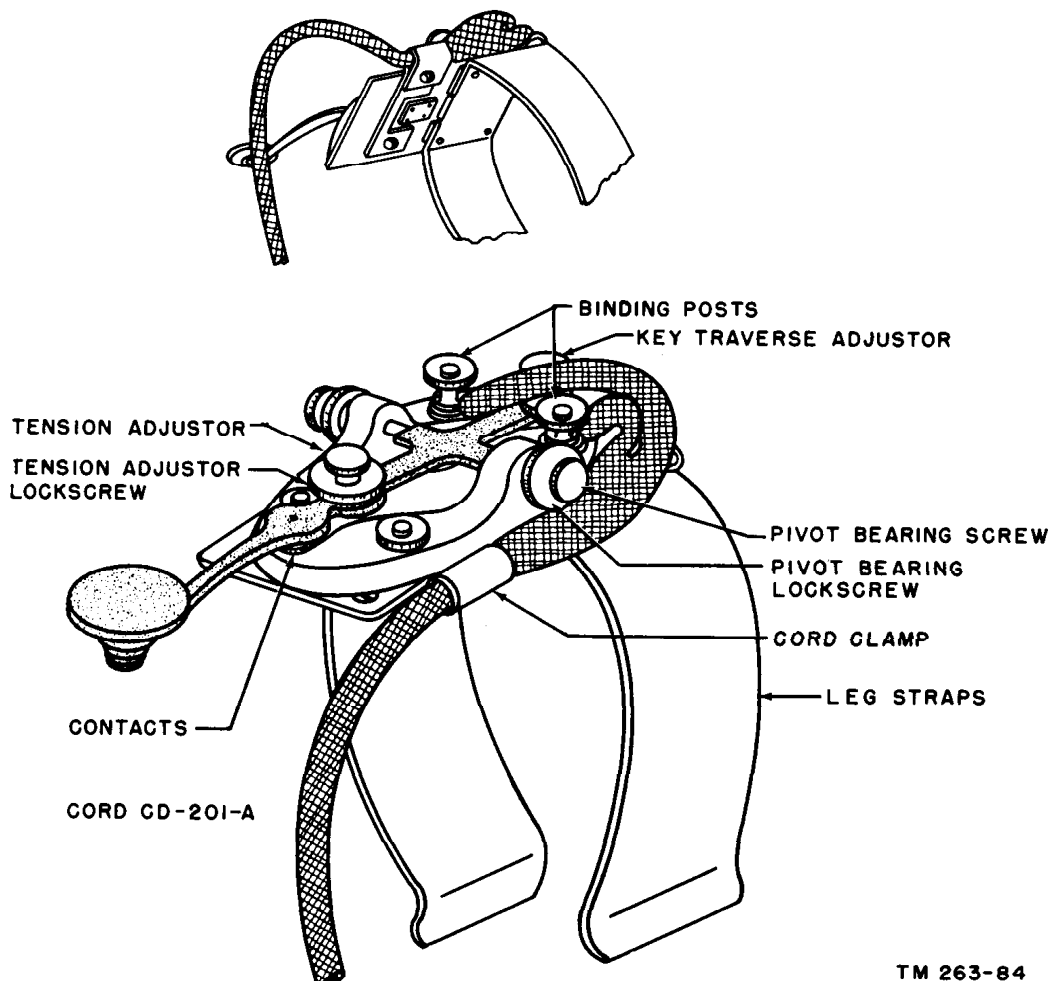

Figure 159. Adjustment of Key J-45.
- (1) The necessary sequence of operation of the relay is as follows: Contacts 3 and 4 and 17 and 18 should close before contacts 9 and 10. This is important, otherwise pa tube V103 may be ruined.
- (2) The air gap between contacts 4 and 5 and between 1 and 2 should be .035-inch minimum when contacts 3 and 4 are closed. Contacts 9 and 10 should be open with an air gap of .025-inch minimum clearance when contacts 7 and 8 are closed. Gap between contacts 8 and 9 with relay fully energized should be .018-inch minimum.
- (3) The contact pressures of the relay contacts are 29 grams, plus or minus 3 grams.
e. *Adjustment of Key J-45 (fig. 159).* No special instructions are necessary for the adjustment of the key.